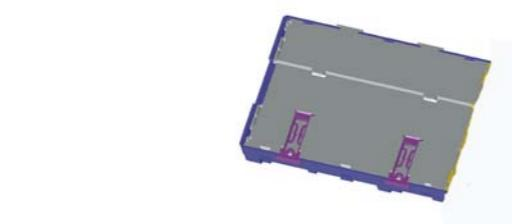

FIG 1 BASE-FONDELLO
- For all electrical connections please refer to fig.1. For details please refer to Energy XT Installation User Manual.